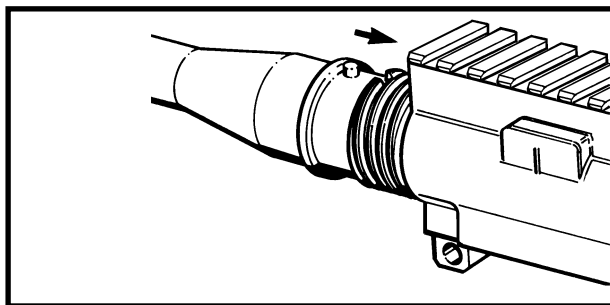

Figure 3-2-22 Installing the Barrel Assembly
- a. Clamp the barrel in a vise equipped with vise jaw caps to ensure an adequate grip without damage to the barrel, ensuring that the barrel indexing pin faces upward. See Figure 3-2-22;